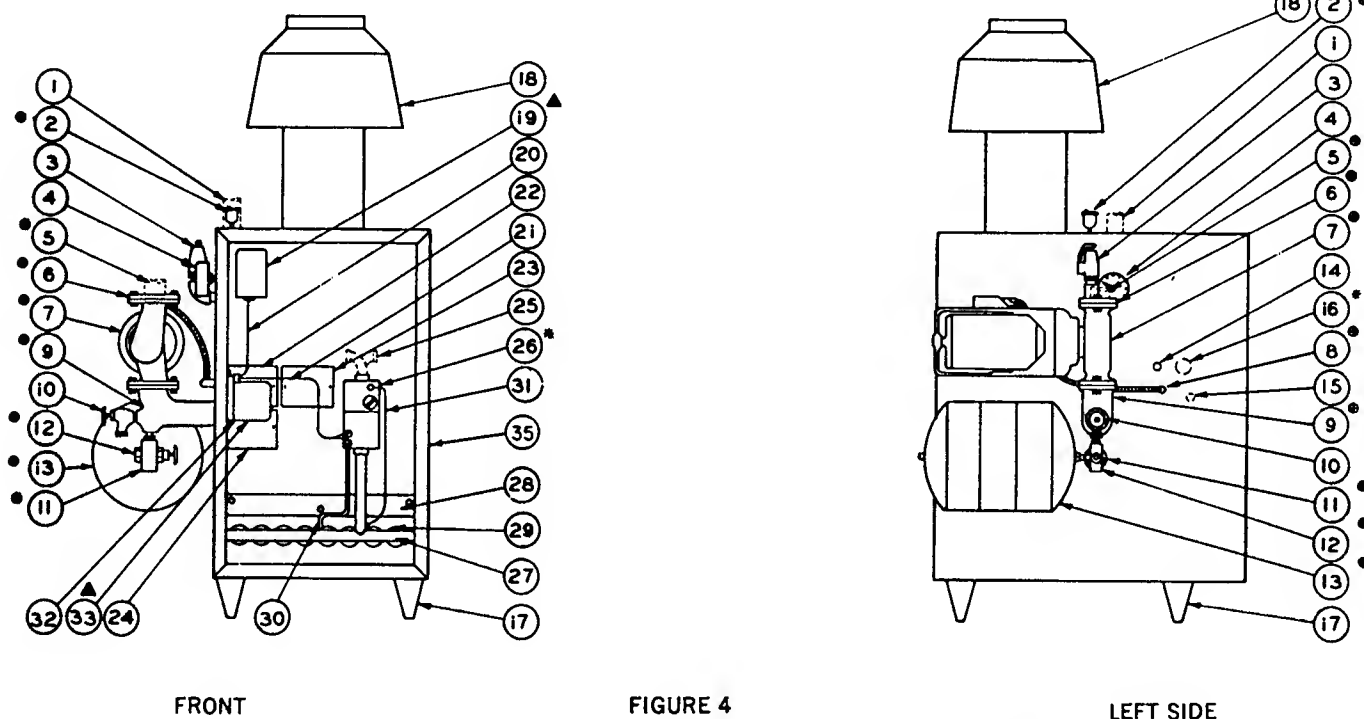

FIGURE 4
Pages 9 and 10 contain standard wiring diagrams for 24 volt and millivolt applications. The boiler is shipped with the combination relay-transformer, limit control, circulator and main (automatic) gas valve completely wired. Bring the electrical supply through the proper opening in the jacket left side panel (see Figure 4 item 16) and into the junction box; wire the electrical supply as shown on the appropriate wiring diagram. Bring the thermostat wiring through the opening in the jacket left side panel and wire the thermostat across the terminals on the combination relay-transformer as shown on the wiring diagram label. All safety circuit wiring should be N.E.C. Class-1 for installations in the United States and must conform to the Canadian Electrical Code for Canadian installations. All wiring should also be installed in compliance with any local or state codes or requirements having jurisdiction. The boiler must be electrically grounded in accordance with the National Electrical Code, ANSI CI-1975.
Those replacement parts likely to be available locally from your installer, serviceman or local heating supply or store are identified in Figure 4 as items: 1, 2, 3, 4, 5, 6, 7, 8, 10, 19, 20, 21, 25, 26, 30, 31, 32 and 33.